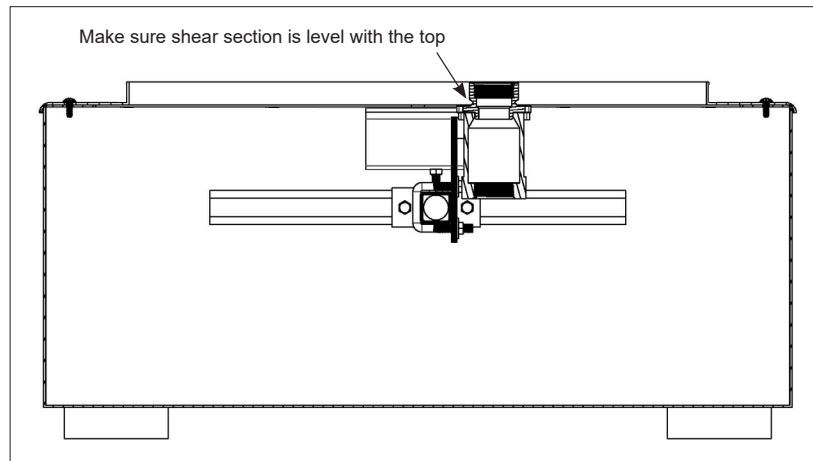

Figure 5
5. The shear valve must be aligned vertically such that the center of the shear groove is flush with the top of the pedestal. (see Fig.5) To adjust vertically loosen the bolts holding the valve to the stabilizer plate. To adjust horizontally loosen the clamping bar bolts or the 3/8" U-bolts. (see Fig.3) Tighten fasteners after adjustments have been made.